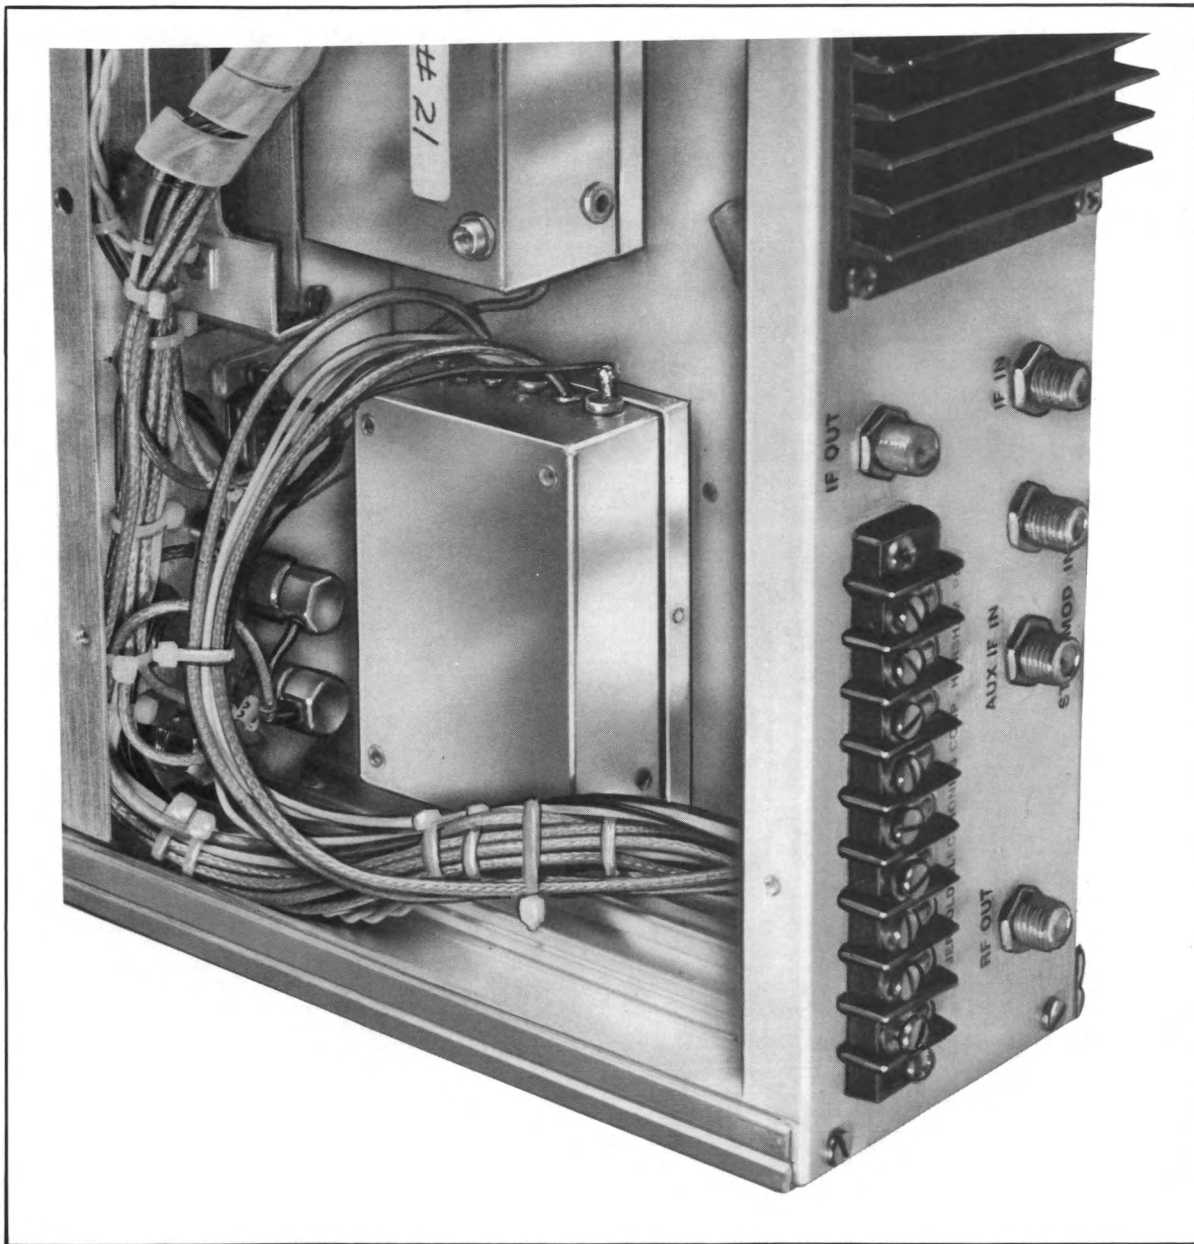

Fig. 9 CIS MODULE INSTALLED
- 1.2.3 Stand the Processor on its side and install the CIS module, cover down - so that the mounting nuts of the CIS will register with the associated holes in the bottom of the Processor chassis; then secure the CIS with the two mounting screws, shipped with the CIS, from the bottom of the Processor chassis; see Fig. 9.